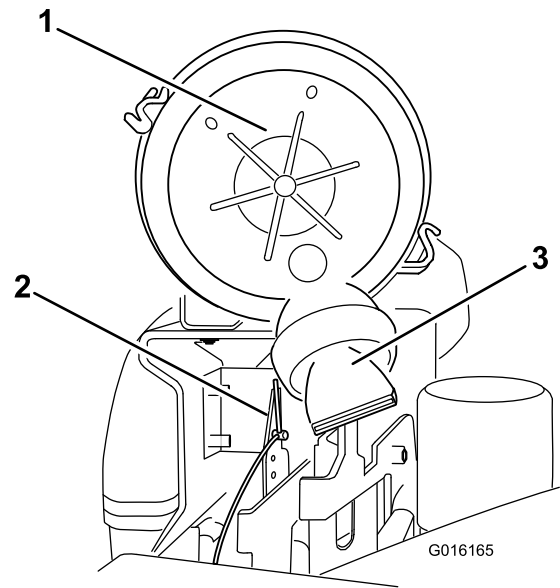

Figure 46
4. Position the air cleaner cover so that the breather valve does not interfere with the throttle mechanism (Figure 46).